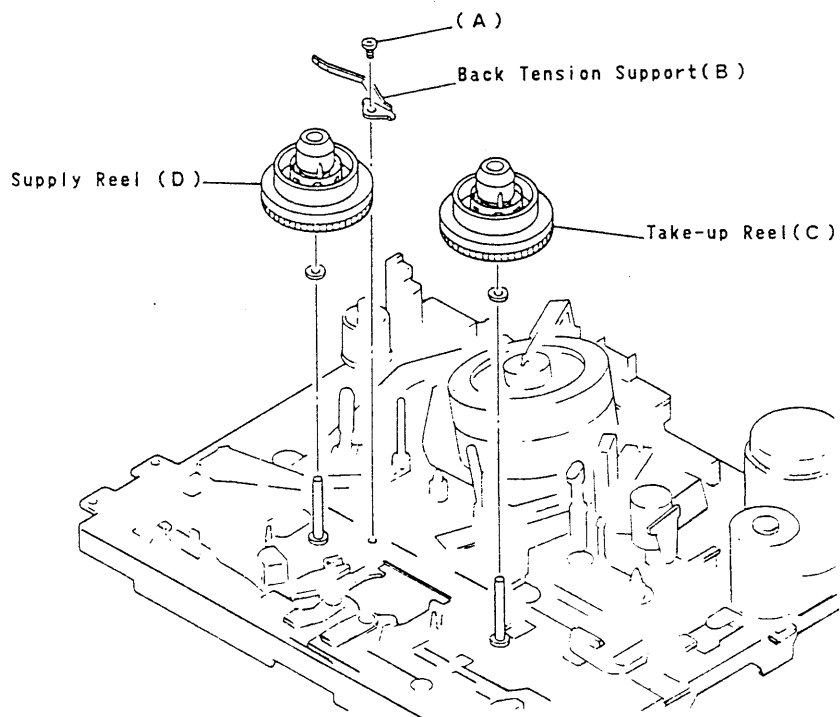

Fig. 2-6
(7) Reel (Take-up and Supply)(Fig. 2-6)